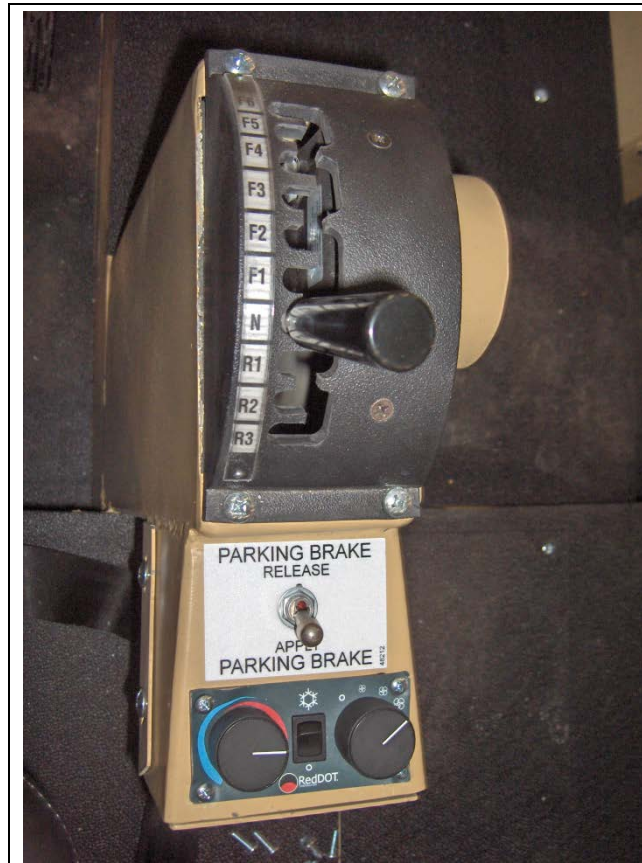

Figure 1-2. Console Controls
4. The park brake is applied by pulling up on the parking brake switch and moving downward. Pull up and push switch forward to release. See Figure 1-2.